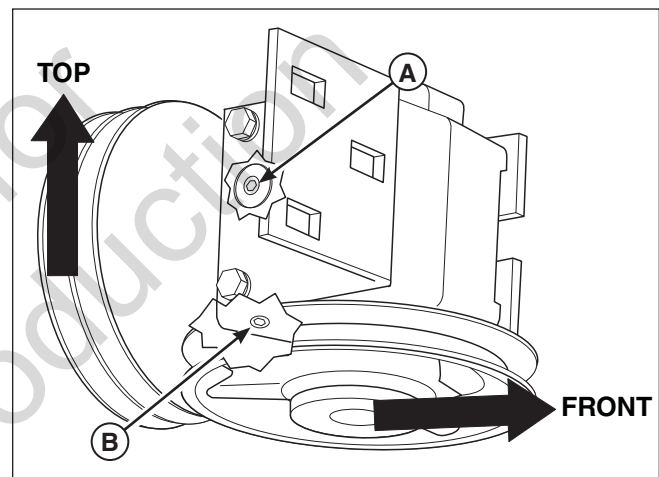

Figure 40. Gearbox Oil Level
1. Remove fill plug (A, Figure 40) on gearbox.